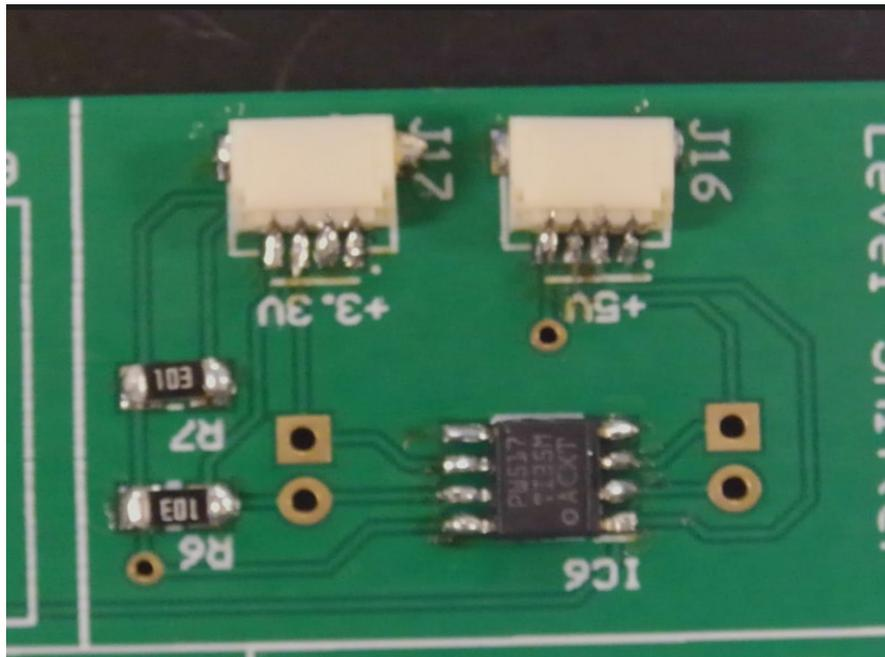

Figure 65: Assembled I2C Module
51. Your assembled I2C Module should not look like Figure 65.